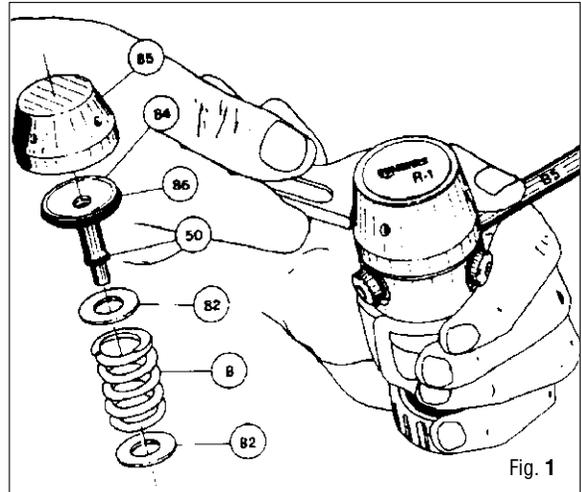
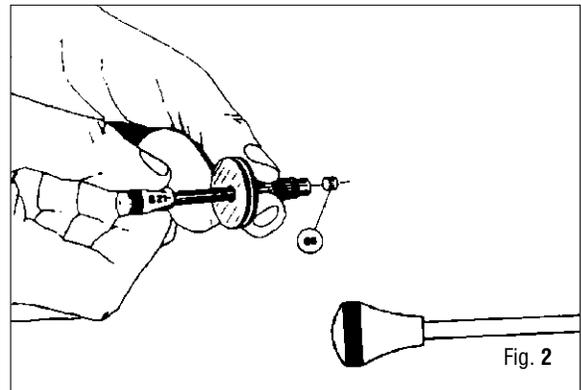

Fig. 1
Fig. 2
3. With a pin wrench, unscrew cover (85), remove spring (8) and spring washers (82), if present.
4. Remove the complete piston (84-88-86-50) from the cover (Fig.1).
5. Remove O-rings (86) and (50) from piston.
6. Remove the piston seat (86) with tool (B22) (Fig. 2).